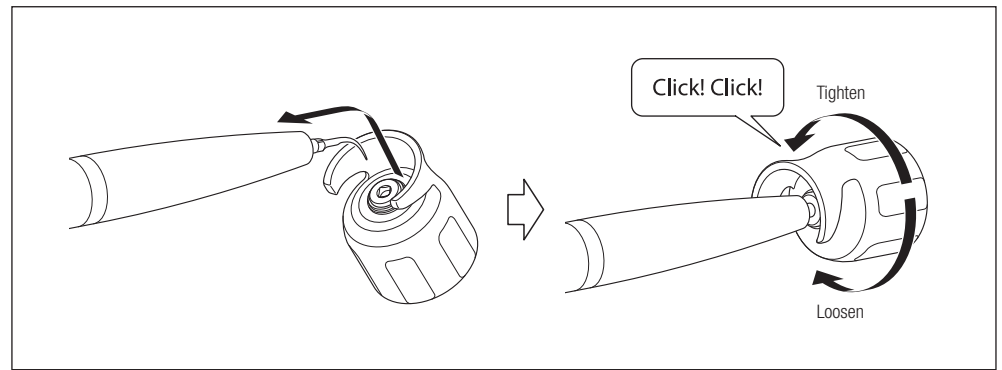

Fig. 16
- 3) Match the square shape of the Tip with the hole of the Tip Wrench, then insert the Tip into the hole. Rotate the Wrench until it makes a click sound and cannot rotate any further. During this procedure, hold the Handpiece so that the Handpiece Cord does not become twisted. When removing the Tip, rotate the Wrench in the direction of the “Loosen” arrow (Fig. 16).